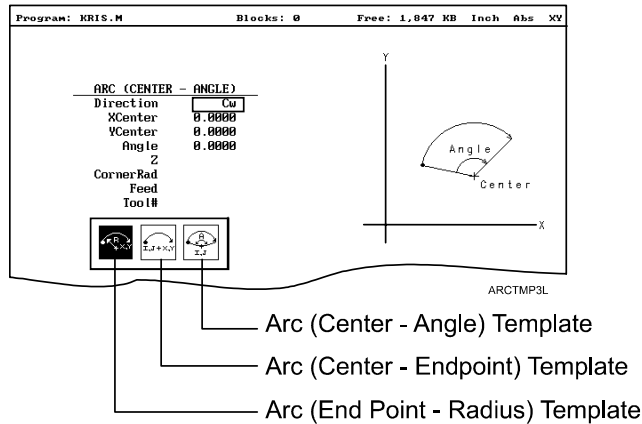

Figure 3-14, Arc Template Pop-Up Menu
2. Press **More... (F4)** to display the Arc template pop-up menu. Refer to Figure 3-14, Arc Template Pop-Up Menu.
3. Press **More... (F4)** to display the Arc Template pop-up menu. (Refer to **Figure 3-14**).
2. Press **More... (F4)** to display the Arc Template pop-up menu. (Refer to Figure 3-14, Arc Template Pop-Up Menu.)
3. Press **More... (F4)** to display the Arc template pop-up menu. Refer to Figure 3-14, Arc Template Pop-Up Menu.